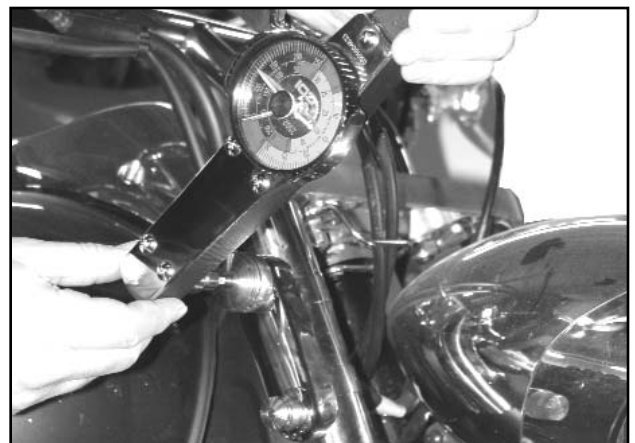

Figure 8.
14. Tighten the Nuts to 75 INCH POUNDS (8.6Nm) (6.25ft/lbs) **Figure 8.**